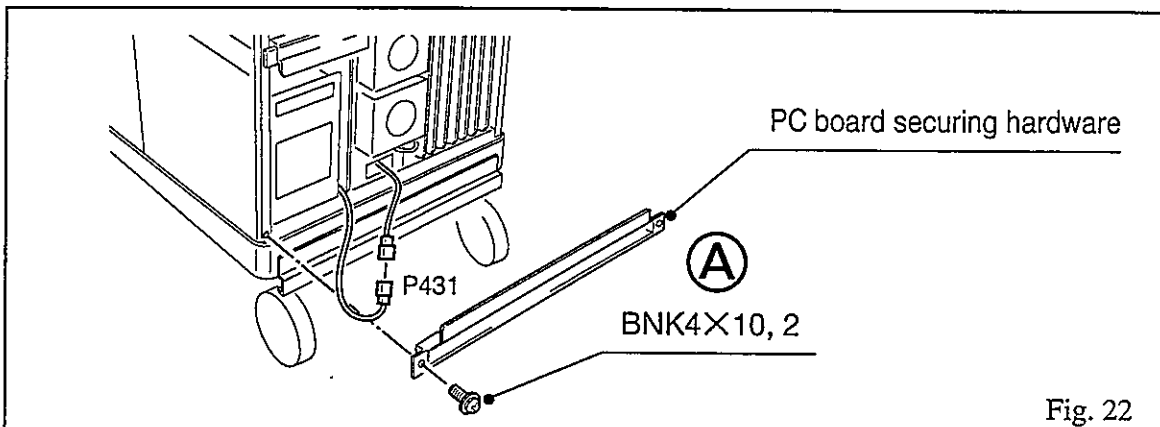

Fig. 22
- (5) Unfasten 2 screws each and remove PC board securing hardware. Then, unplug POWER switch cable on the back of equipment. (A in fig. 22)